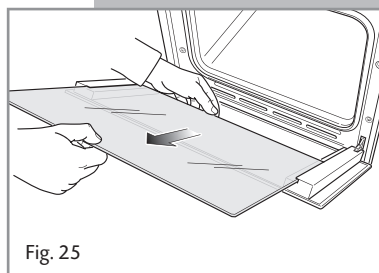

Fig. 25
- Gently pull out the inner pane of glass (Fig. 25).